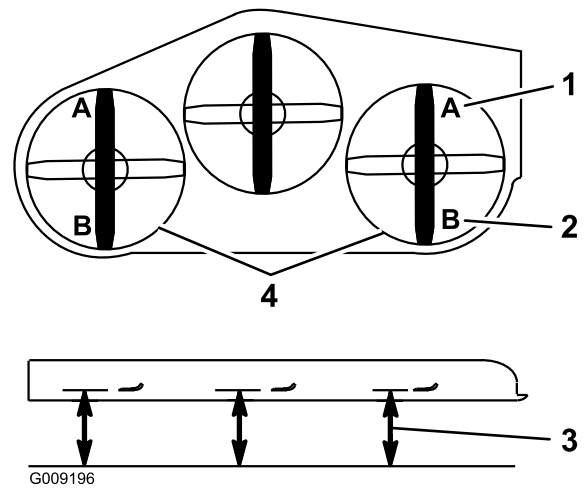

Figure 89
9. On both sides of the deck, measure from the level surface to the front tip of the blade (Position A) as shown in Figure 89.
16. On both sides of the deck, measure from the level surface to the back tip of the blade (position B) as shown in Figure 89.